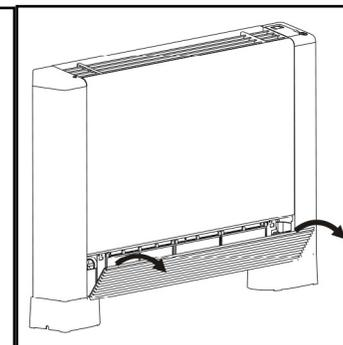

Figure 23 - Opening the Grill
2. Open the grill. See Figure 23.